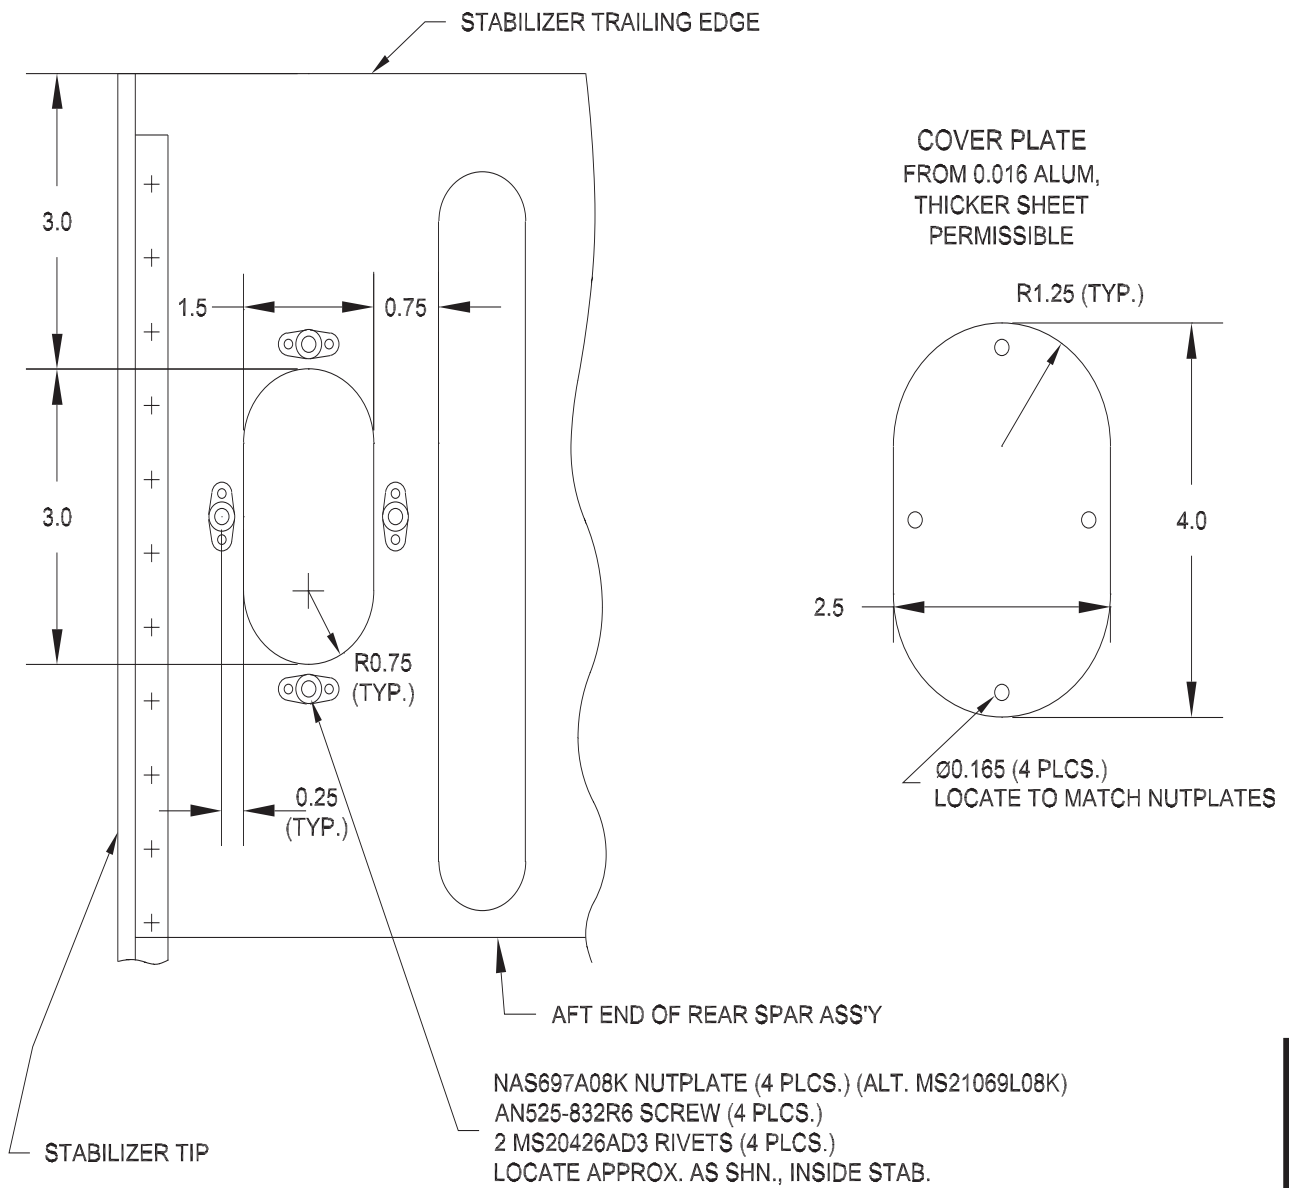

Figure DB-011-1 - Field Modification for Inspection Purposes
1. Cut a hole in the bottom of the stabilizer in accordance with Figure DB-011-1.
3. Fabricate a cover in accordance with Figure DB-011-1.